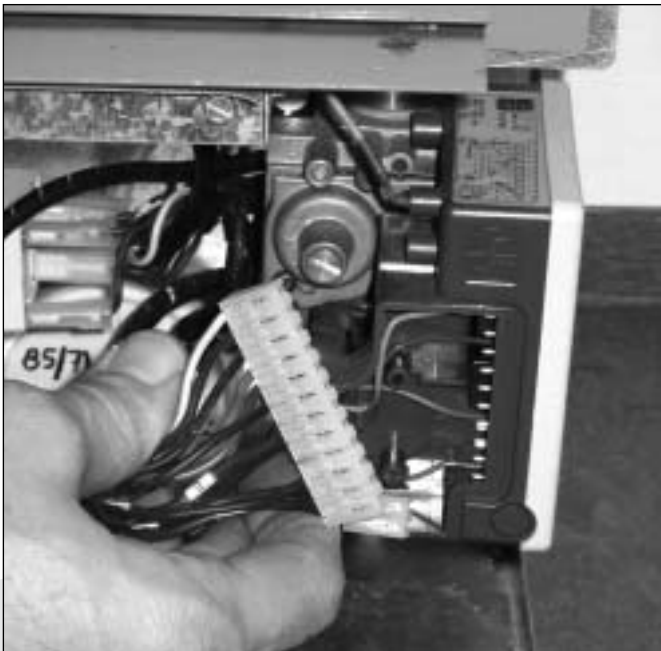

Fig. 16
- Pull the 2 connectors out of the automatic ignition sequence (see fig. 16).